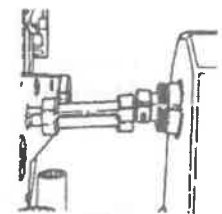
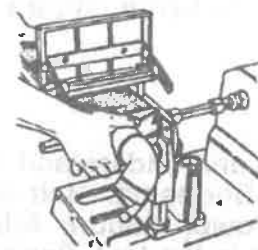
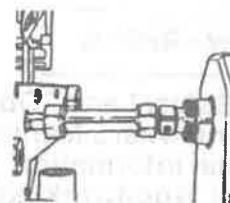
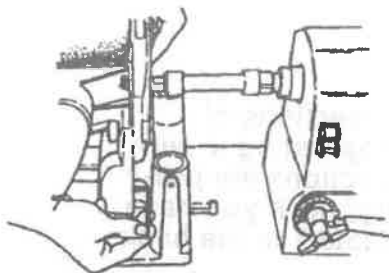

Fig.F-9
Fig.F-10
Fig.F-11
Fig.F-12
11. Fig.F-9 shows typical vertical misalignment. After you have horizontally aligned the Belt Sander to the drive shaft hub (31), lift the Belt Sander, as in Fig.F-10, until the coupler vertically aligns with the drive shaft hub. When they are vertically aligned, as in Fig.F-11, tighten the Belt Sander tube setscrews. See Fig.F-12. Recheck the vertical alignment. If it is off, re-do it.